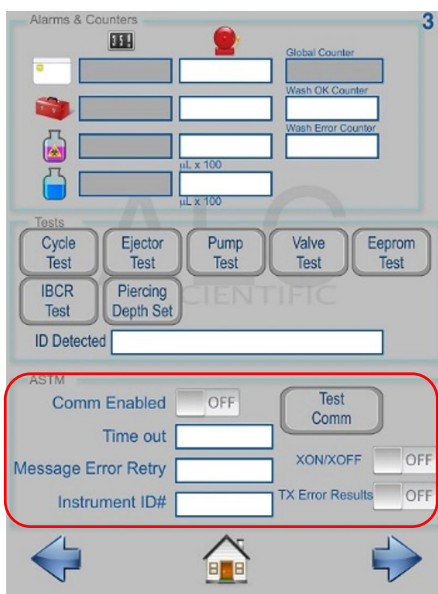

Figure 42
- 10.7. Update the LIS settings according to customer preferences. Figure 42